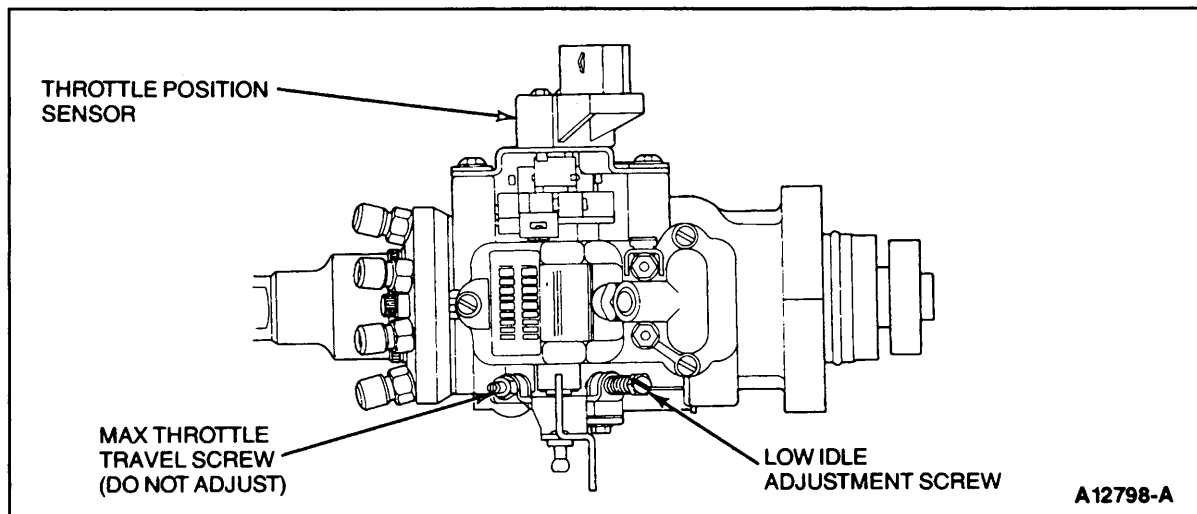

Figure 1 Top View of Fuel Pump
- While in Self-Test, place 0.515 inch gauge block Rotunda #T83T-7B200-AH between the Max Throttle Travel Screw and the Gauge Boss (Figure 1 and 2).